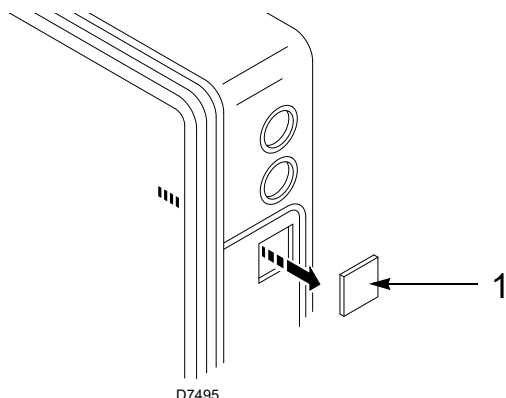

Fig. 1
- Remove the pre-cut rectangle 1)(Fig. 1) on the front shield of the burner being careful of the switch box XP2 situated inside.